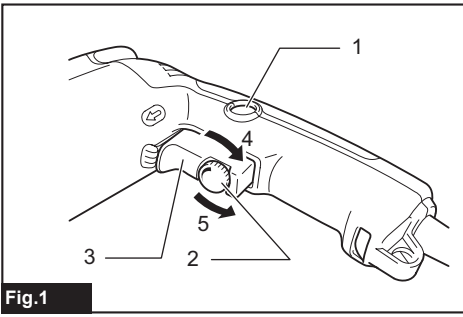

Fig.1
- **Fig.1:** 1. Lock button 2. Speed control screw 3. Switch trigger 4. Higher 5. Lower